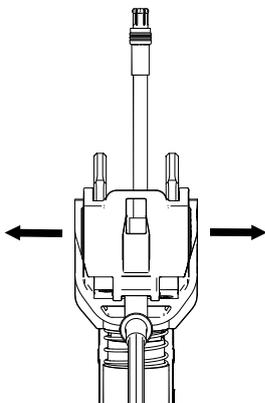
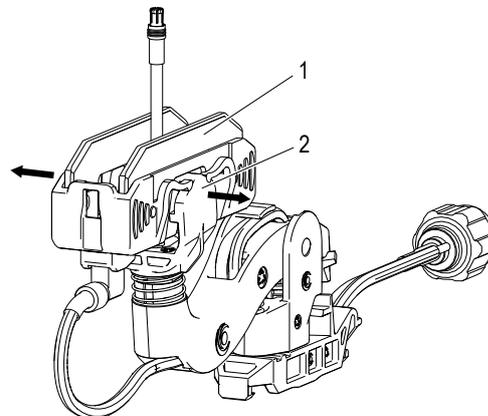

Fig. 175: Disassemble balance from joint
Fig. 176: Balance incl. sliding contact (1) and joint (2)
→ Disassemble the balance (1) from the joint (2) (see Fig. 175 and Fig. 176). If necessary, use a flat-head screwdriver ≤ 3.0 .